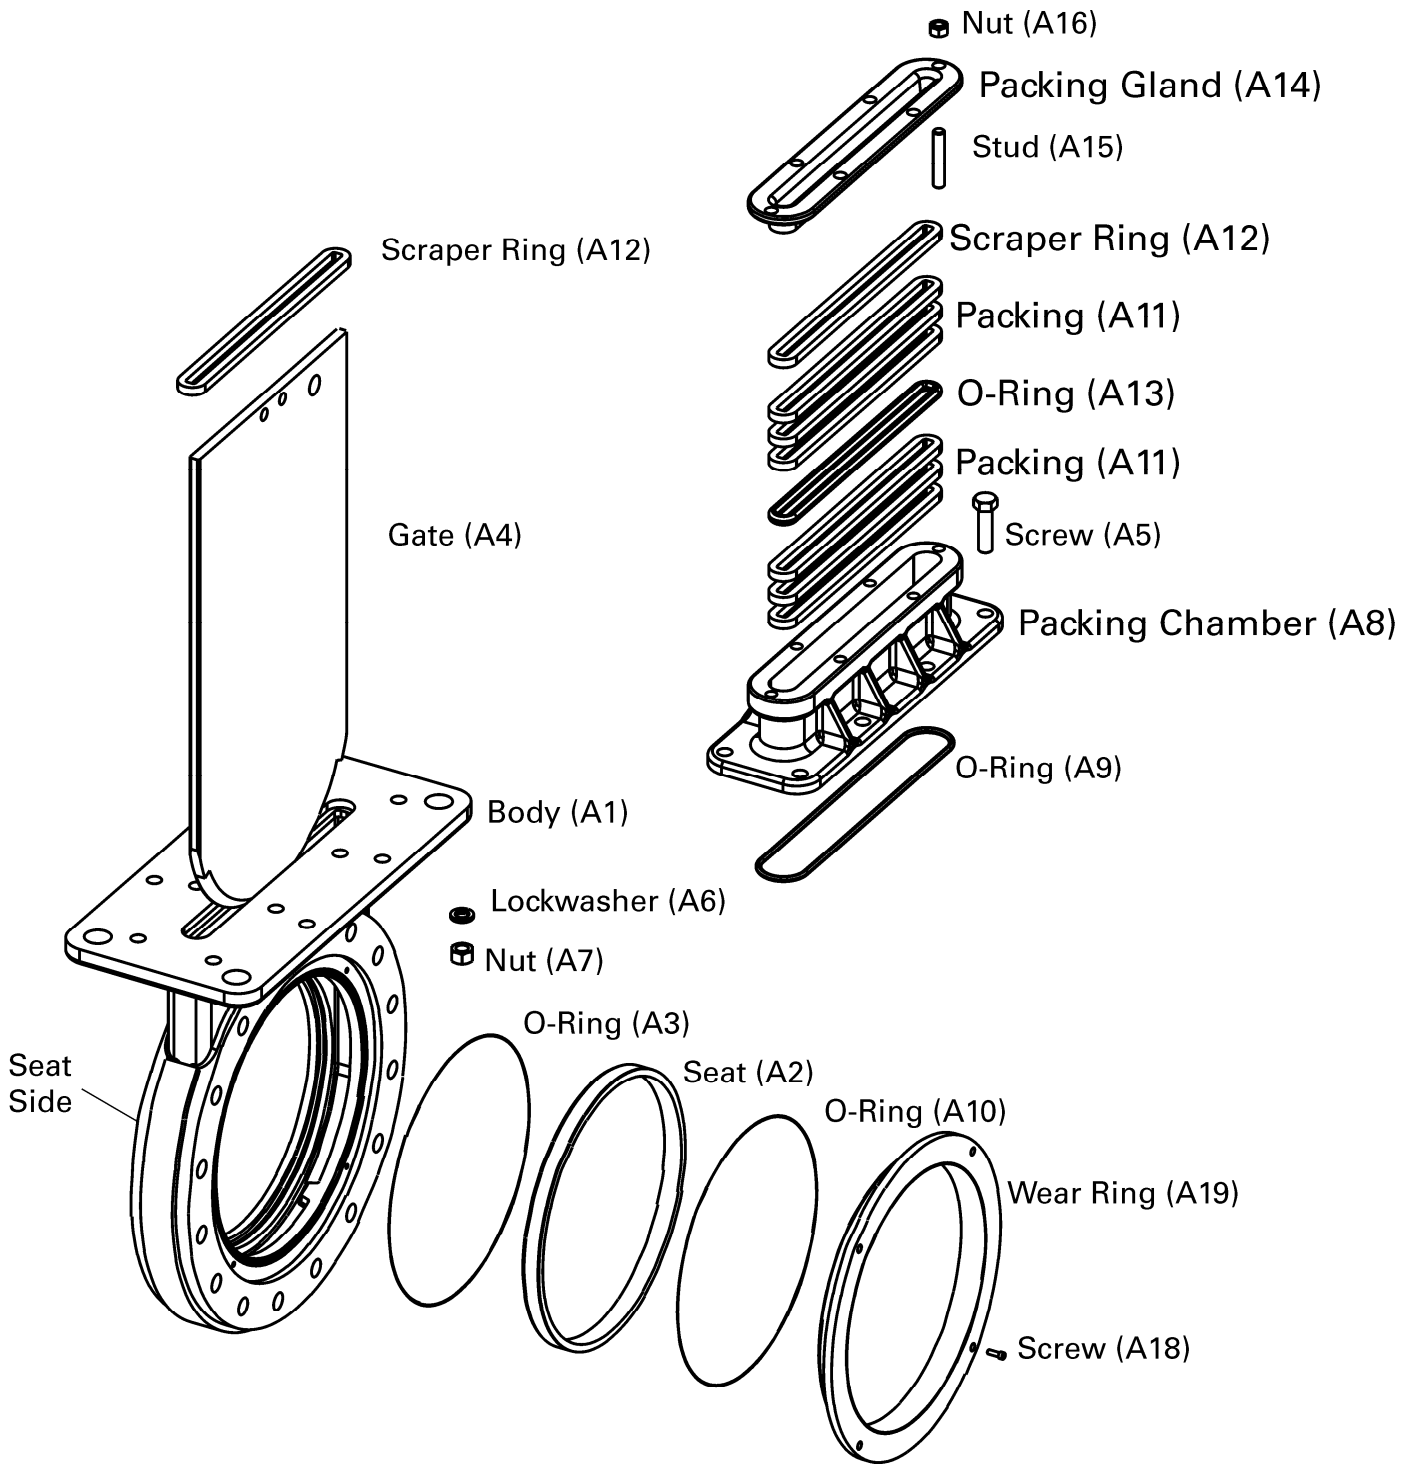
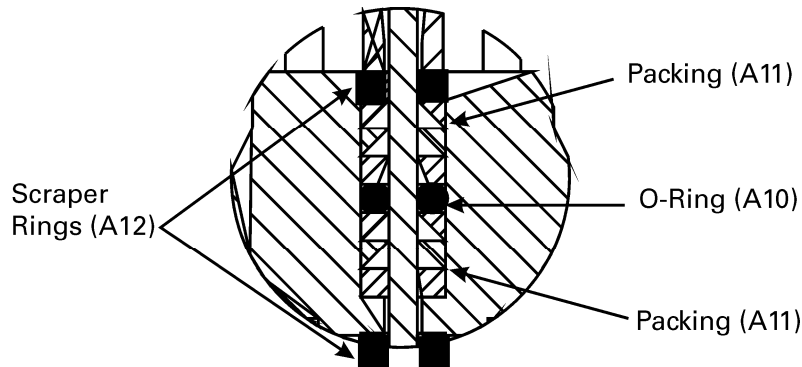

Figure 1—Component Identification
Figure 2—Packing Ring Sequence
The gate packing is contained and compressed by the packing gland. See Figure 1 (Page 2) and Figure 2 (Page 4) for component identification.
5. Install and pack the scraper rings (A12), packing rings (A11) and o-ring (A13) one at a time in the sequence shown in Figure 2 (Page 4).
See Figure 1 (Page 4) for component identification.
- a. Note the gate side and body side of the seat as shown in Figure 1 (Page 2).